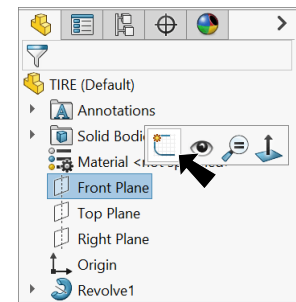

Fig. 10
Step 1. Click **Front Plane**  in the Feature Manager and click **Sketch**  on the context toolbar, **Fig. 10**.